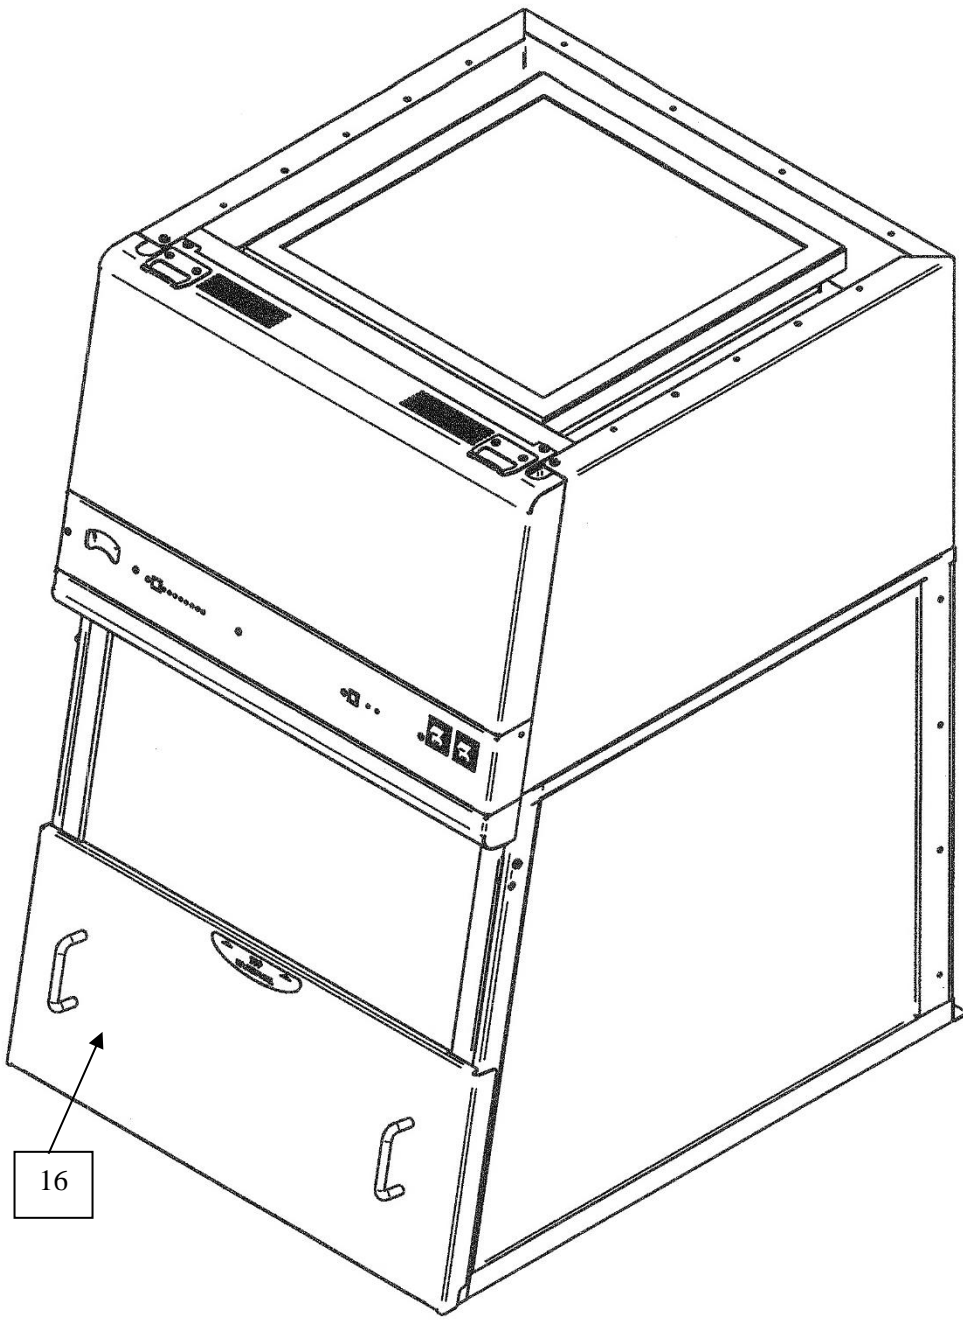

Figure 4-3
16. **UV Closure Panel** provides protection when the UV lamp is on. The panel must be in place for the UV lamp to work. See Figure 4-3.